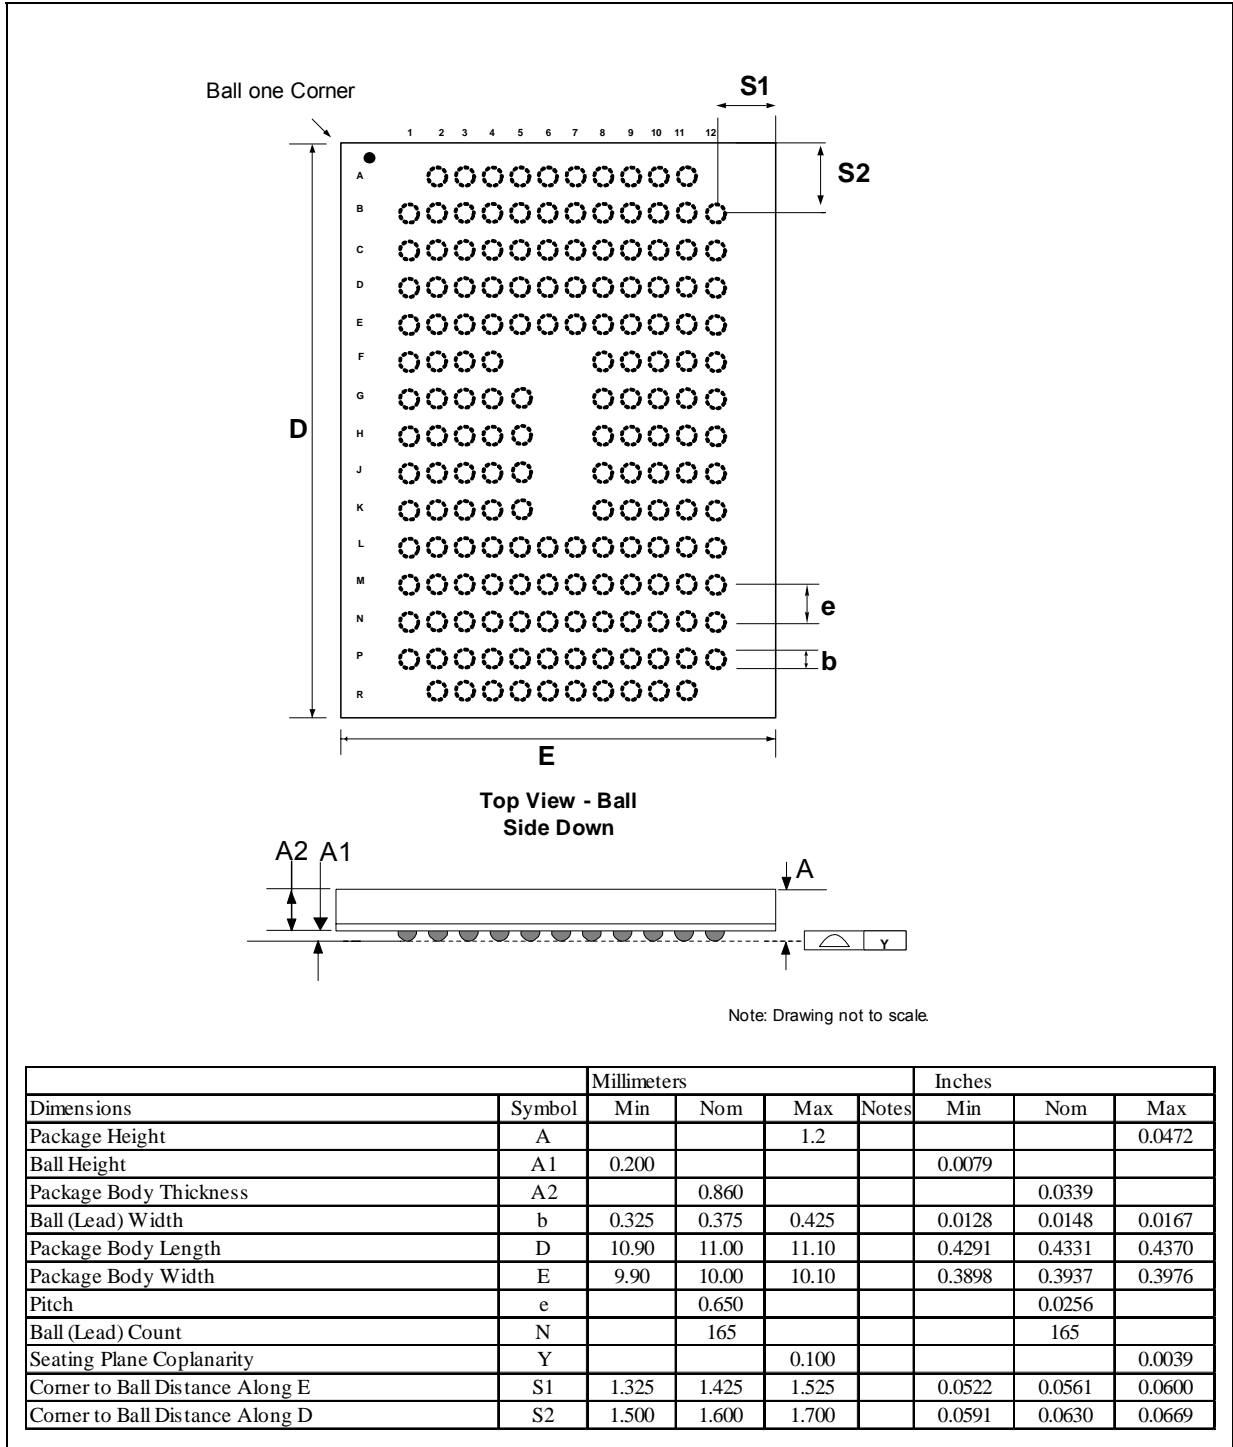

Figure 6. Mechanical Specifications for x16C (107-ball) package (8x10x1.2 mm)
- Figure 6, "Mechanical Specifications for x16C (107-ball) package (8x10x1.2 mm)" on page 20